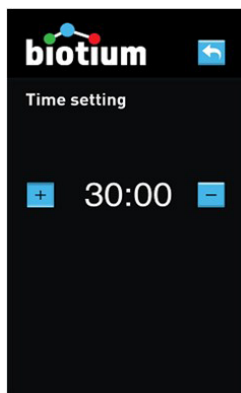

Figure 3. PMA-Lite™ 2.0 time settings screen.
2. To set the length of time for photolysis, press the  icon in the top right-hand corner of the display screen. This will bring up the time setting screen, where you may add or subtract time with the plus and minus icons, respectively (Figure 3). The time setting can be adjusted in 1 minute intervals. The minimum time that can be entered is 5 minutes, and the maximum is 45 minutes.